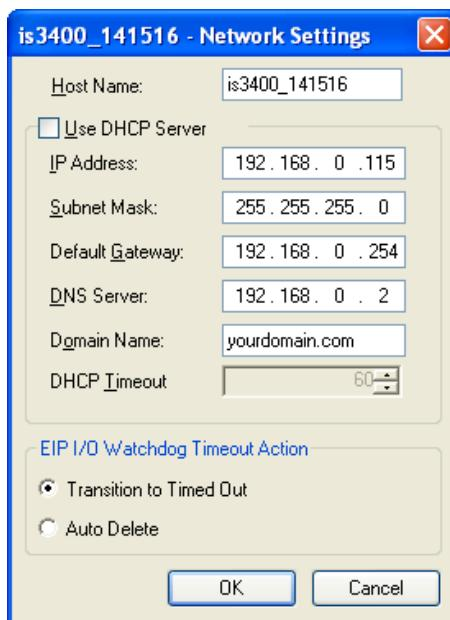

Figure 2-19: Network Settings Dialog
3. On the Sensor menu, click Network Settings to open the Network Settings dialog (Figure 2-19).